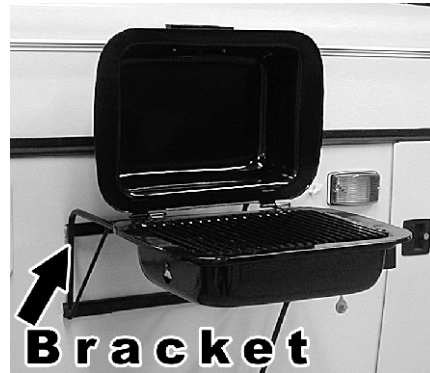
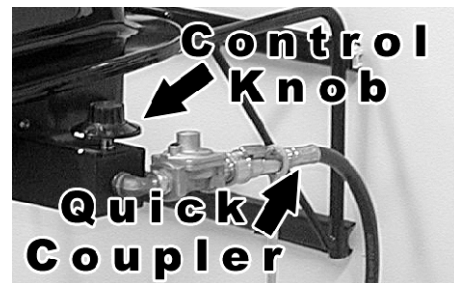

Fig. 29
Fig. 30
2. Place the BBQ grill into the grill bracket. (Fig. 29)
6. If the grill does not light, turn the propane off, wait five (5) minutes and repeat the above steps.
7. Use the temperature control knob to adjust the grill to the desired temperature. (Fig. 30)